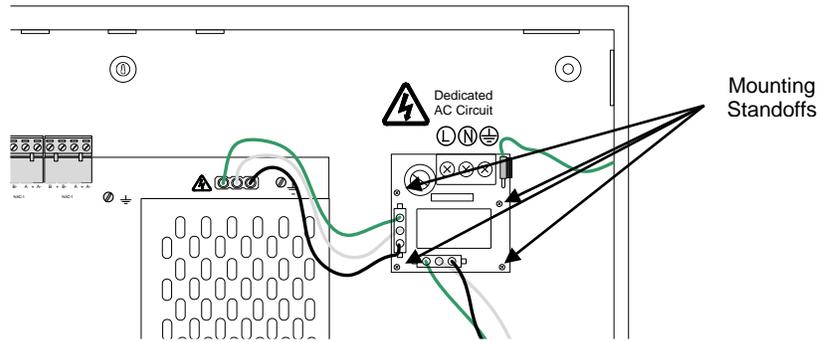

Figure 8 - NX-ACS-ACB AC Board
To install the NX-ACS-ACB board, place the board over the four (4) standoffs located in the upper right corner of the NX-CC01-BB-BB or NX-CC02-BB-BB back box, and secure with the four (4) screws provided with the NX-ACS-ACB board (see figure 8). It is critical that these screws be tightly secured as they are required for proper earth ground connection.
Plug one end of the provided Molex cable into the bottom Molex connector on the NX-ACS-ACB, plug the other end of the Molex cable to the Molex connector located on the top right side of the NX-FACP base card (see figure 8). The other Molex connector on the NX-ACS-ACB is utilized for AC connection to either the NX-EM-PSU or NX-EM-PSU6 module, if installed.